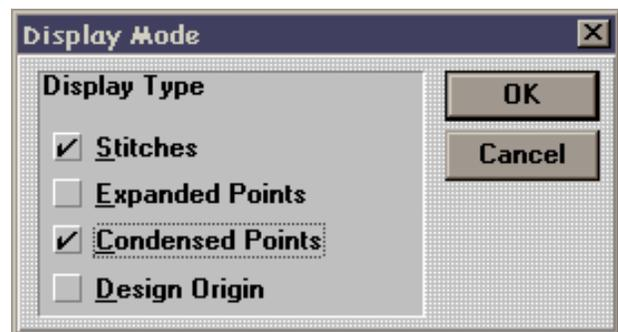

Figure 3-7
2. In the Display Mode dialog box, shown in Figure 3-7, click on the Condensed Points check box to place a check mark in the box. You should also see that there is a check mark in the Stitches check box.